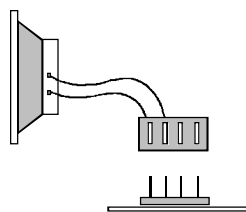

FIGURE 2B
3. Remove the internal speaker connector from the motherboard. (Figure 2B)
Carefully remove the connector from the motherboard. Lift the connector straight up, being careful not to wiggle it and break the motherboard side of the connector. You will notice a set of pins sticking up from the motherboard. Note the pins that match the positions in the connector being removed that are used by the speaker. (Figure 2B)